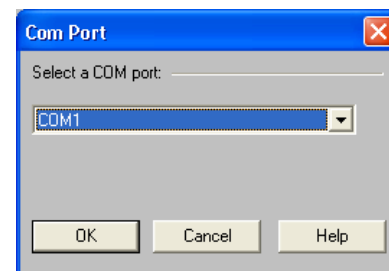

FIGURE 4-7: “COM Port” Dialog
2. The “COM Port” dialog opens, as pictured in Figure 4-7.